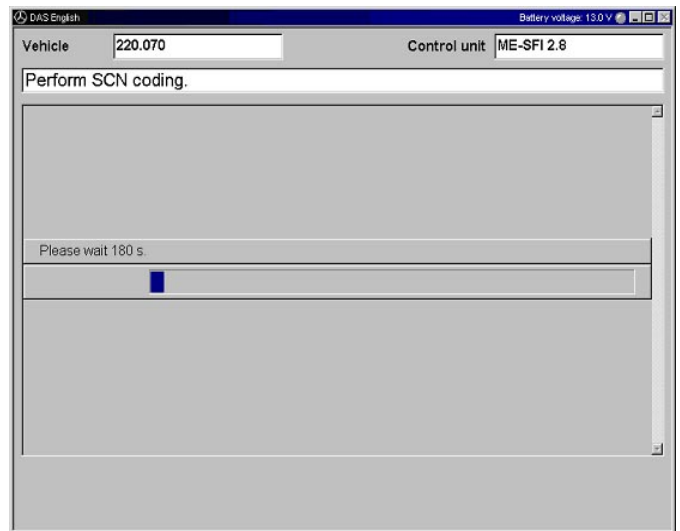

Figure 7
8. After the SCN Coding process, the CVN is automatically read out of the ECM. The calculation of the CVN may take up to 180 seconds. (Figure 7)